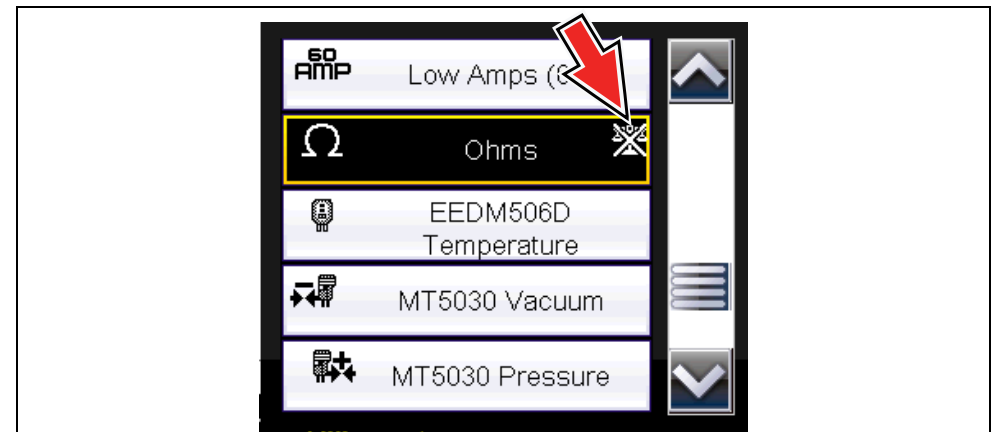

Figure 11-12 Probe menu - Ohms with “not calibrated” indicator displayed
*During an ohms test or a pressure test, a manual probe recalibration can be initiated by selecting the probe icon from the Control Panel to open the probe menu. Then select either the **Ohms** or **Pressure (100, 500, 5000)** items from the probe menu. The menu selections will display a graphic of a balance scale with an “X” through it (on right side) to indicate that probe is not calibrated (Figure 11-12).*